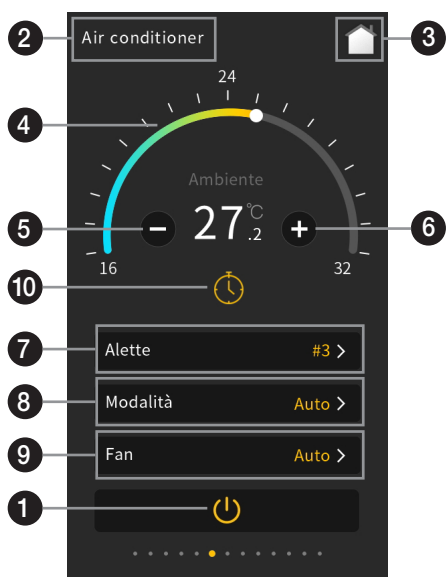

Fig. 2.4.1
- Adjusting the temperature by sliding the ring slider **4** or touching the icon **5** and icon **6**. For each touching of icon **5** and icon **6**, the adjustment range is 1.0 degrees. When the setting temperature unit is set to degrees Celsius (°C), as shown in Fig. 2.4.1, adjustment range of the setting temperature is 16~32°C by default; when the setting temperature unit is set to Fahrenheit (°F), the current temperature value will automatically convert to Fahrenheit value, as shown in Fig. 2.4.2, adjustment range of the setting temperature is 61~90°F by default. The temperature adjustment range can be modified through parameter setting. The ambient temperature is displayed according to the parameter configuration. Temperature detected by internal sensor or external sensor can be displayed through configuration. When internal and external sensor both occur fault, display "--".
Under fixed vanes position, select one of the 5 options (#1, #2, #3, #4, #5) for vanes position, for instance, select #1, interface as shown in Fig. 2.4.3, then touch the area outside the sub-window to return the previous level function page, the position selected will be shown on the function page, as shown in Fig. 2.4.1. For vanes swing, because vanes position change all the time, there would be no fixed position, only display character "Swing" on the interface.
Vanes swing function set to be disable or enable by parameter configuration. When disable, there will be no vanes fixed/swing item shown on the interface, as shown in Fig. 2.4.1; when enable, vanes position can be adjusted.
Icon **10** on indicates timer turn on; icon **10** off indicates timer turn off. Timer function can be enabled via the parameter configuration. When timer function is disabled, there would be no timer icon as shown as Fig. 2.4.1 on the interface; when enabled, timer can be configured.